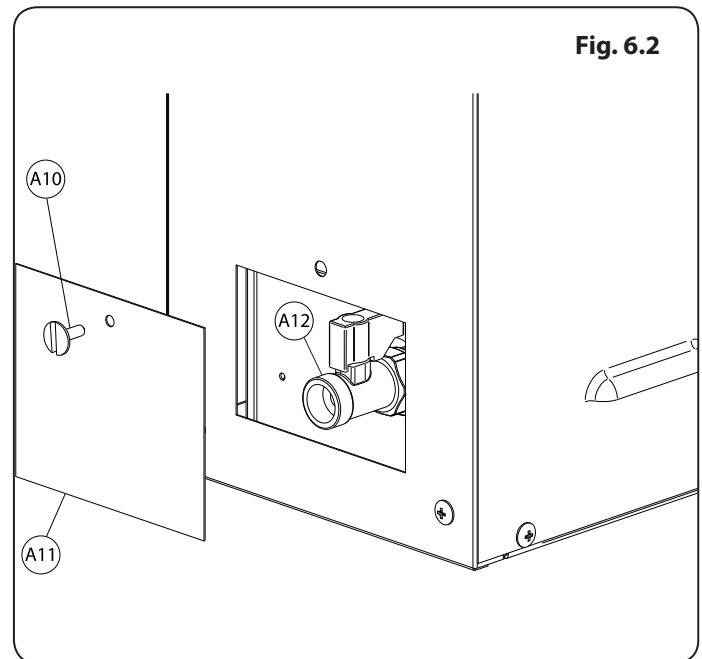

Fig. 6.2
11. Close the drain (**A12**) (**Fig. 6.2**).
15. Disconnect and stow the drain pipe (**A14**) & connector (**A13**) securely replace the drain cover (**A11**) and screw (**A10**) (**Fig. 6.2**).